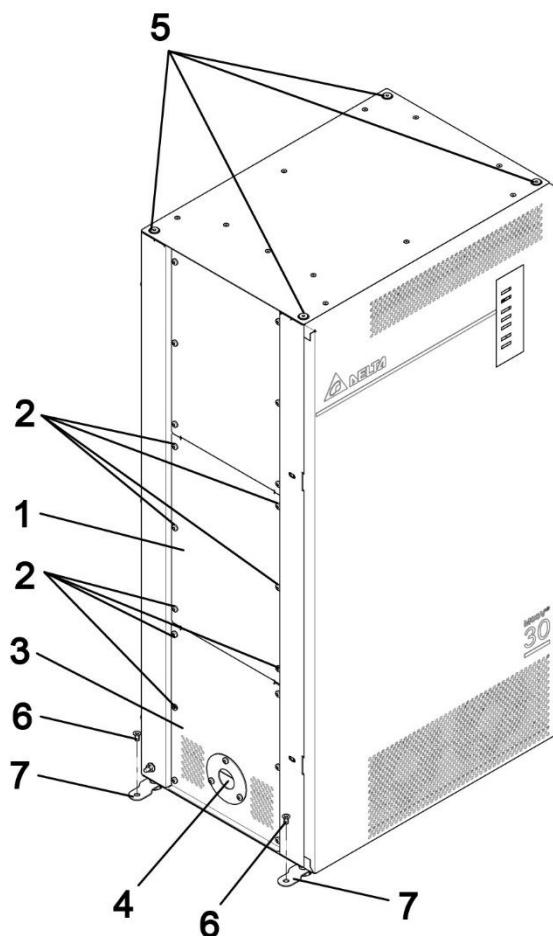

Figure. 20 WPB Cover Plates
<p>CAUTION:</p>	WPB is provided with M8 threaded holes (5) at the top, that can be used with eyebolts for lifting purposes (supplied by others), See Figure. 20. Replace provided bolts after eyebolts are removed to retain ingress protection.